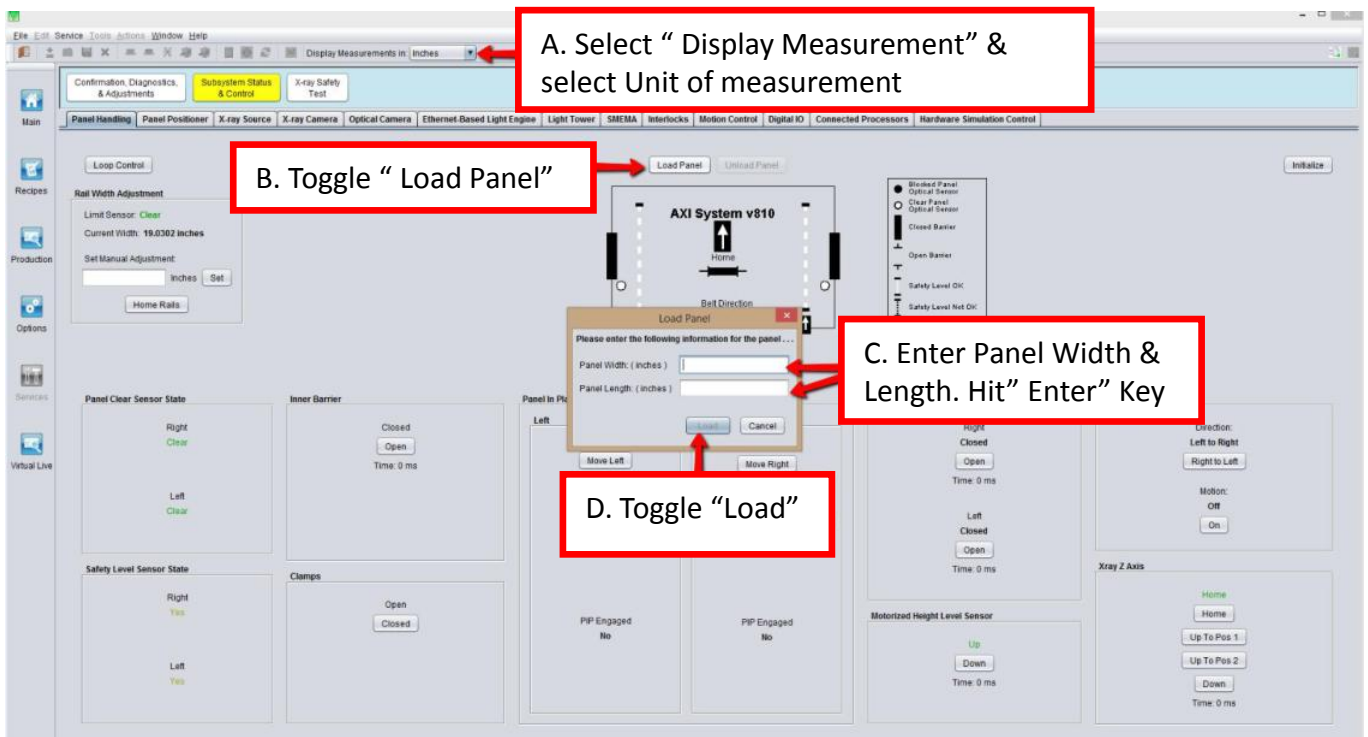

Figure 19 Panel Handling
12. Set the parameters as shown in the Figure 19 and click Load Panel.